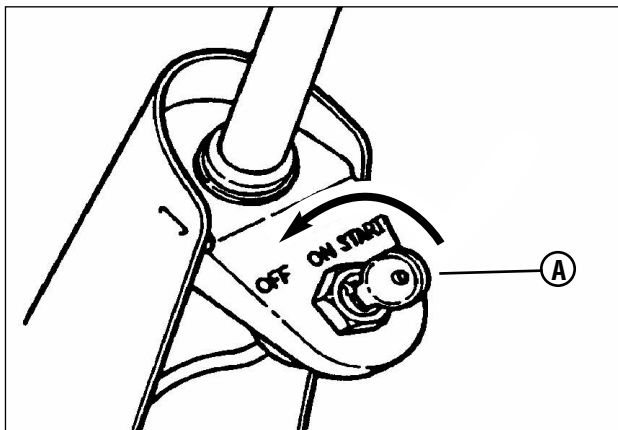

Figure 13: Turning key to 'Off'
1. Stop the engine by turning the key (A, Figure 13) to the "OFF" position.